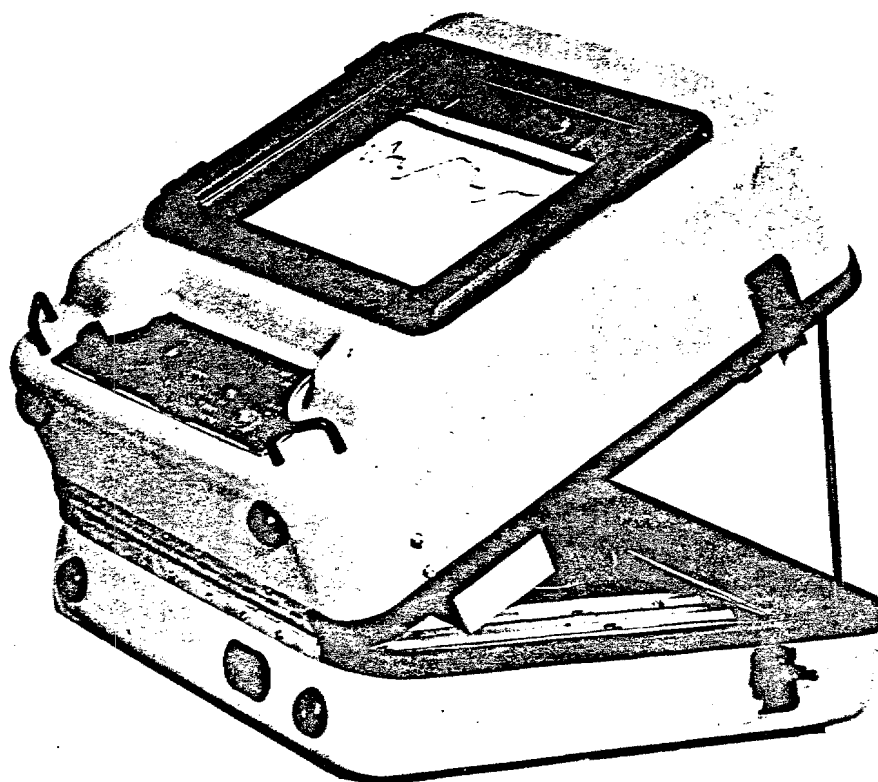

Figure 4-2 Recorder In Operating Position
6. Set the recorder on the seat or deck of the boat. Prop the recorder at an angle with the built-in support. (See Figure 4-2.)